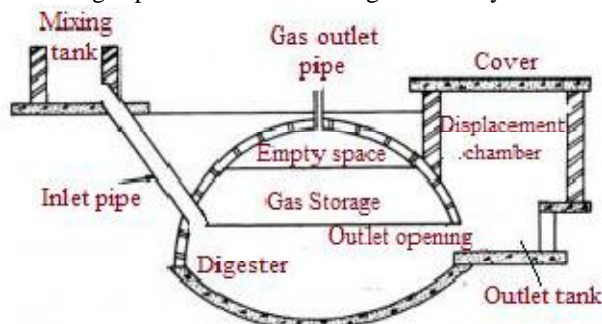

Fig.3. Deenbandhu biogas plant
- The basic construction is shown in figure 3, which has curved bottom and hemispherical top which are joined at their bases with no cylindrical portion in between.